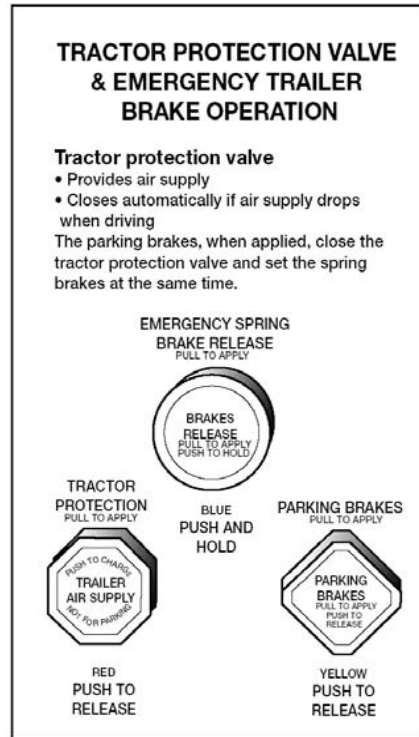

FIGURE 5.3
**Dual Parking Control Valves.** When main air pressure is lost, the spring brakes come on. Some vehicles, such as buses, have a separate air tank which can be used to release the spring brakes. This is so you can move the vehicle in an emergency. One of the valves is a push-pull type and is used to put on the spring brakes for parking. The other valve is spring loaded in the "out" position. When you push the control in, air from the separate air tank releases the spring brakes so you can move. When you release the button, the spring brakes come on again. There is only enough air in the separate tank to do this a few times. Therefore, plan carefully when moving. Otherwise, you may be stopped in a dangerous location when the separate air supply runs out. See Figure 5.3.